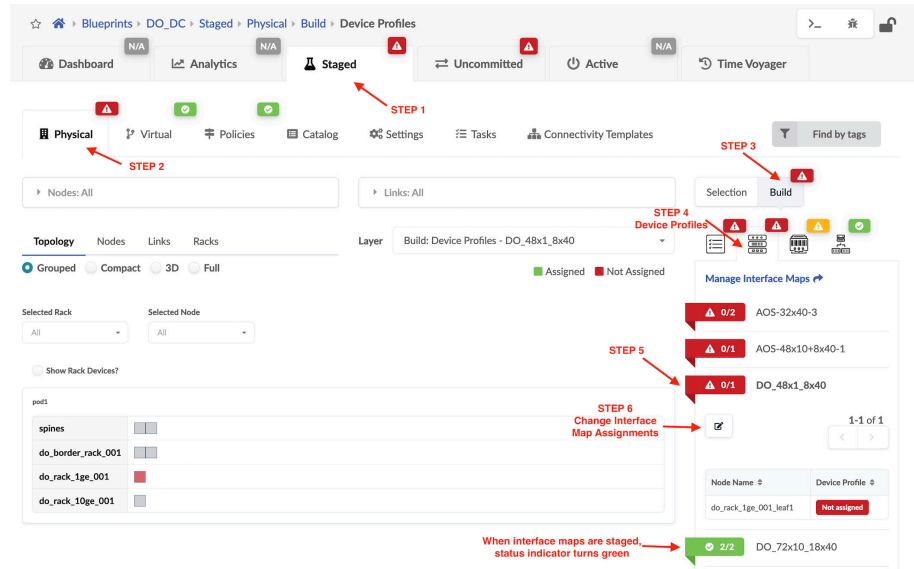

Figure 4.7 Assigning Resources to Fabric Components
Step 1. Click on the Staged tab. See Figure 4.7